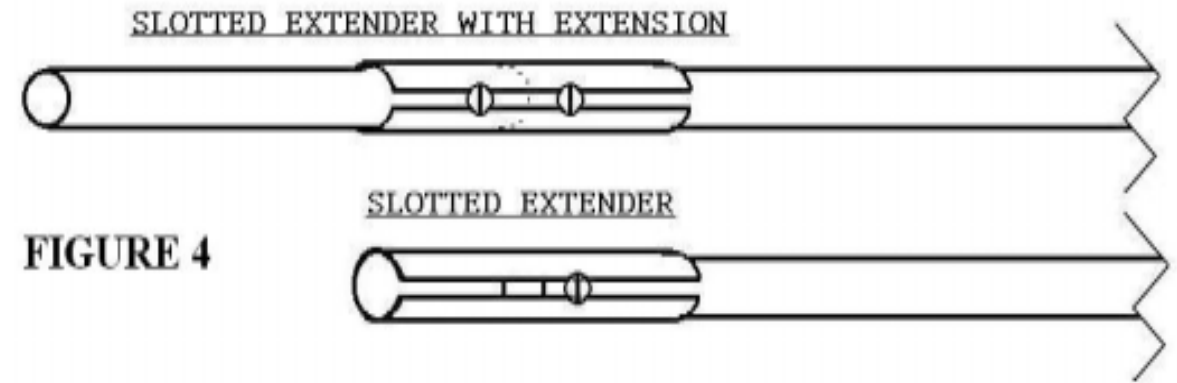

FIGURE 4
J) Locate the extension rod with the attached slotted extender. Locate the Mid tuner on the longer standoffs. Slide the slotted extender over the bottom end of this 102" rod until it butts against the extension. Rotate the extender until the hole in the Mid tuner rod lines up with the slot in the extender. Insert a screw into this hole and slot and tighten. See figure 4.